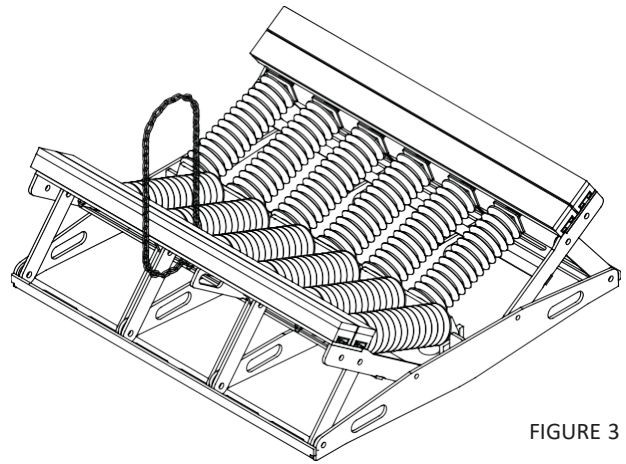

FIGURE 3
1. Support the Wing Arm using a strap or chain with a come-along, hoist, jack, or some lifting device to hold the Wing Arm as shown in figure 3.
5. Lift the Wing Arm up using the strap or chain shown in figure 3 and remove the Support Arms.